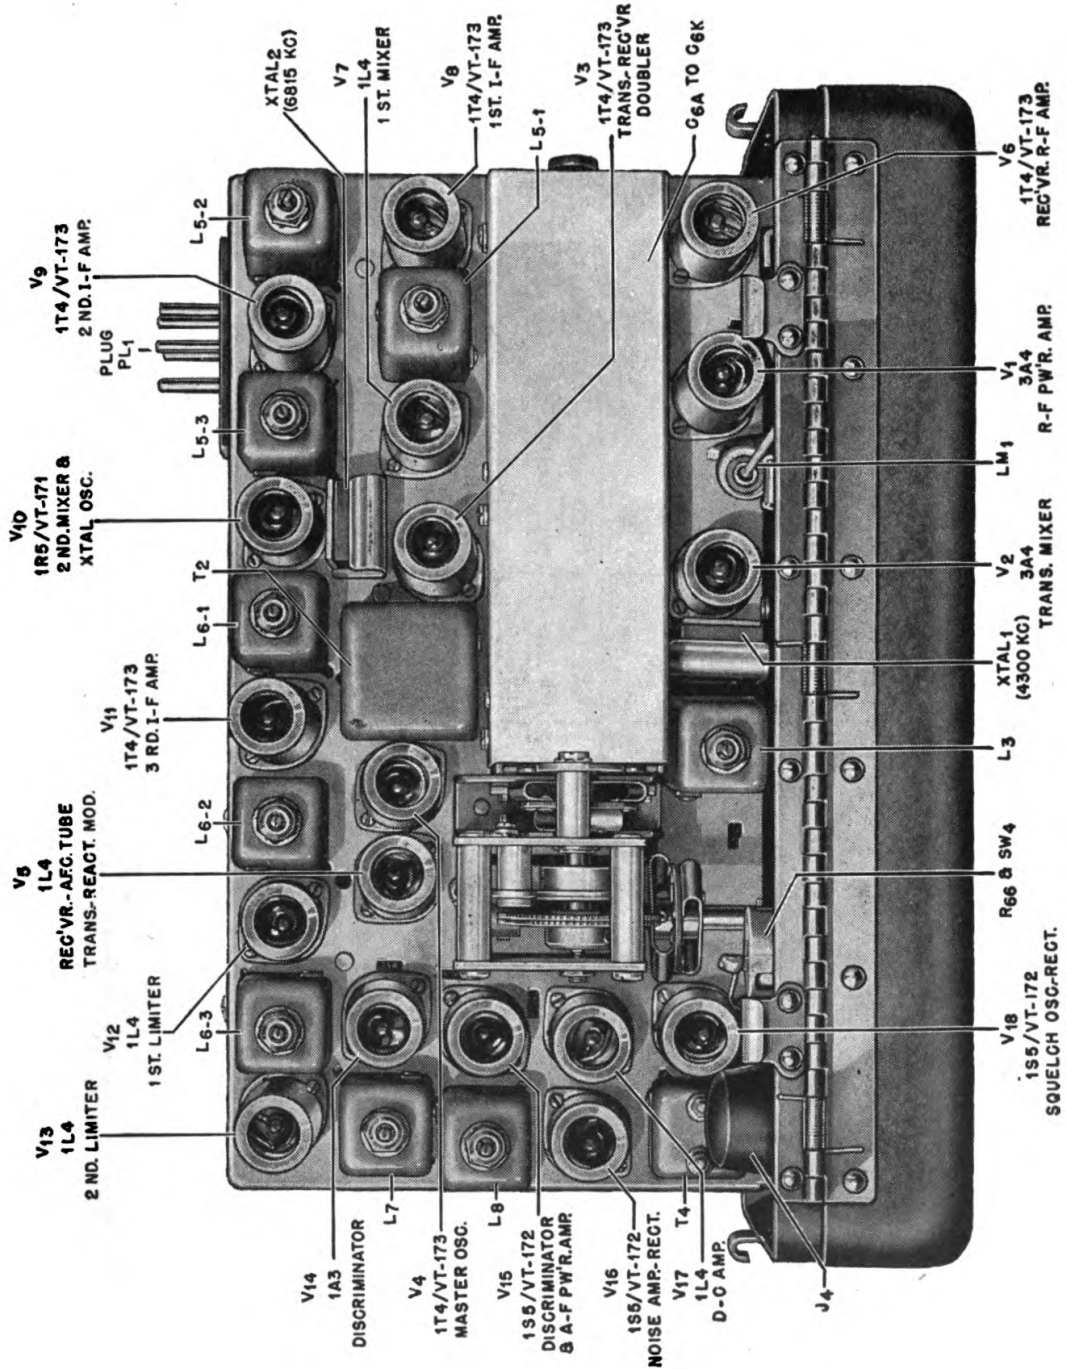

Figure 18. Radio Receiver and Transmitter BC-1000-A, Chassis Top View.
c. Burned out tubes can be located by following instructions in Burned Out Tube Location Chart in this paragraph. *It is not necessary, nor is it* recommended that any but the defective tubes be replaced. If the defect cannot be located as a burned out or broken tube, as indicated by the tests in the chart, don't attempt further analysis unless complete test equipment is available. When replacing tubes, make sure that the proper type of tube is used. Check this by reading the type number of the tube removed from the socket, and also by comparing the new tube with the tube number stamped on the chassis. (Tube layout is shown in Figure 18).